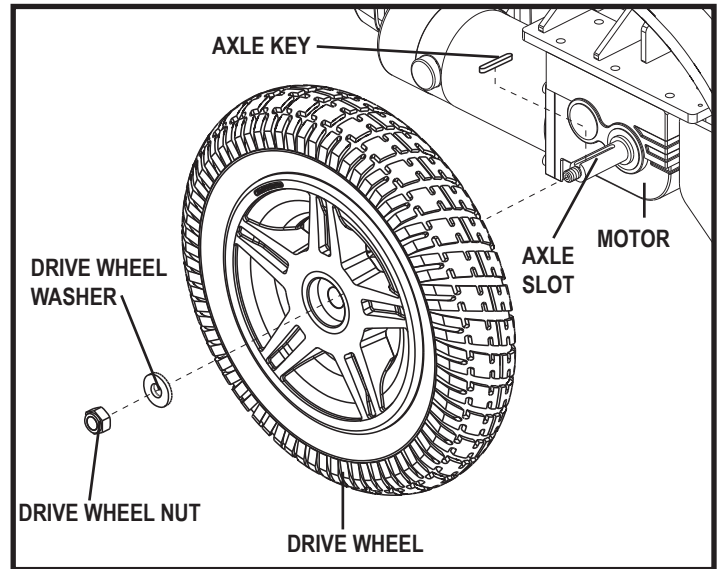

Figure 19. Jazzy Elite Series Drive Wheel Removal
4. Remove the drive wheel nut and washer from the axle. **See figure 19.**
8. Reinstall the drive wheel nut and washer onto the axle and tighten. **See figure 19.**